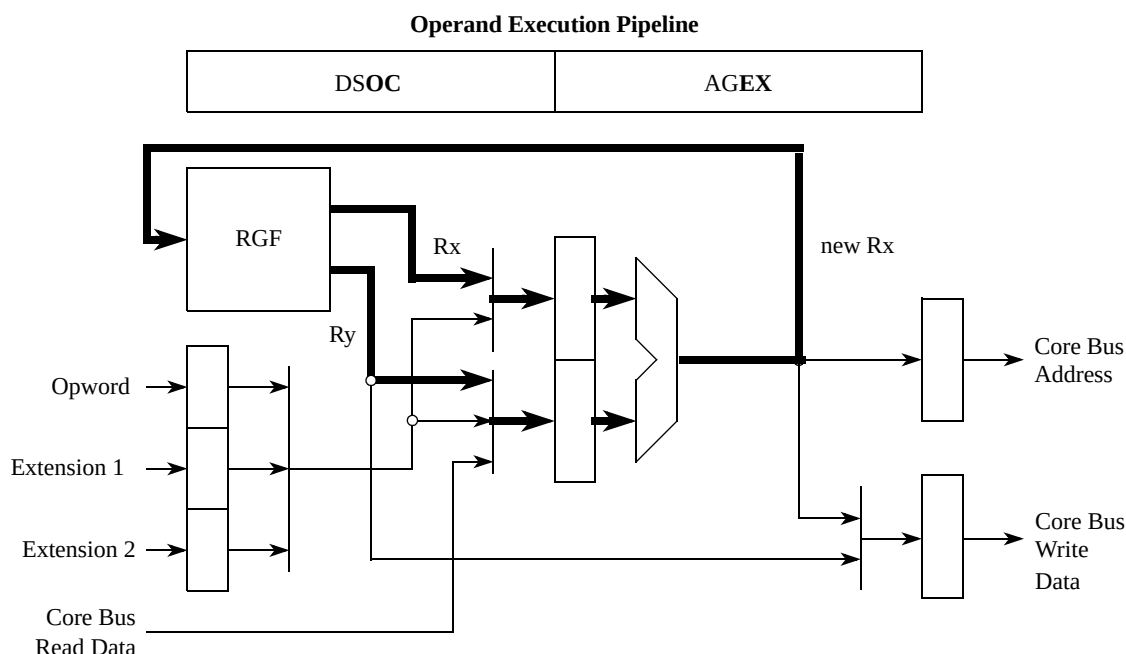

**Figure 2-11. V2 OEP Register-to-Register**
instruction execution is performed in the second stage (EX) in one of the execute engines (e.g., ALU, barrel shifter, divider, EMAC). There are no operand memory accesses associated with this class of instructions, and the execution time is typically a single machine cycle. See Figure 2-11.